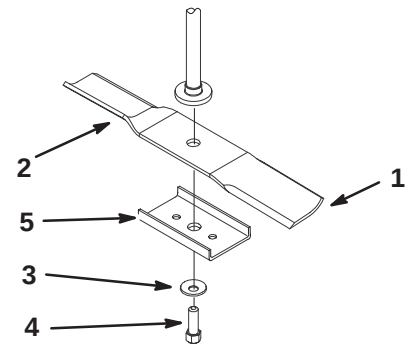
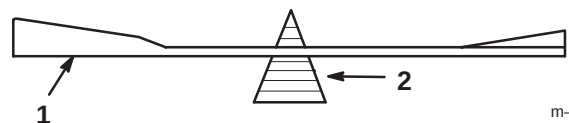

Figure 29
Figure 31
Hold the blade end using a rag or thickly-padded glove. Remove the blade bolt, curved washer, blade stiffener, and blade from the spindle shaft (Fig. 29).
2. Check the balance of the blade by putting it on a blade balancer (Fig. 31). If the blade stays in a horizontal position, the blade is balanced and can be used. If the blade is not balanced, file some metal off the end of the sail area only (Fig. 29). Repeat this procedure until the blade is balanced.
1. Install the blade onto the spindle shaft (Fig. 29).
2. Install the blade stiffener, the curved washer (cupped side toward the blade) and the blade bolt (Fig. 29). Torque the blade bolt to 35–65 ft-lb (47–88 N·m).